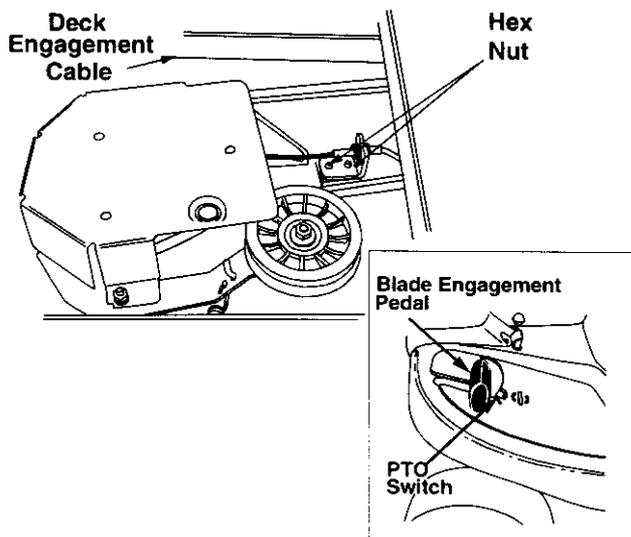

Figure 10
The blade engagement pedal should be adjusted so that if you depress it about 3/4" from the front of the slot, it should start engaging the deck belt. The PTO (power take off) switch is located in the blade brake slot on the left side of the upper frame. See Figure 10. The brake engagement pedal needs to make contact with the PTO switch for the engine to start.
Adjustment to the blade brake will have to be made at the cable end. See Figure 10.
- If the belt is slipping when you depress the blade engagement pedal about 3/4", loosen the two hex nuts on the cable. See Figure 10.
- If the belt is engaging sooner than when the blade engagement pedal is 3/4" from the PTO switch, tighten both hex nuts on the cable. See Figure 10.